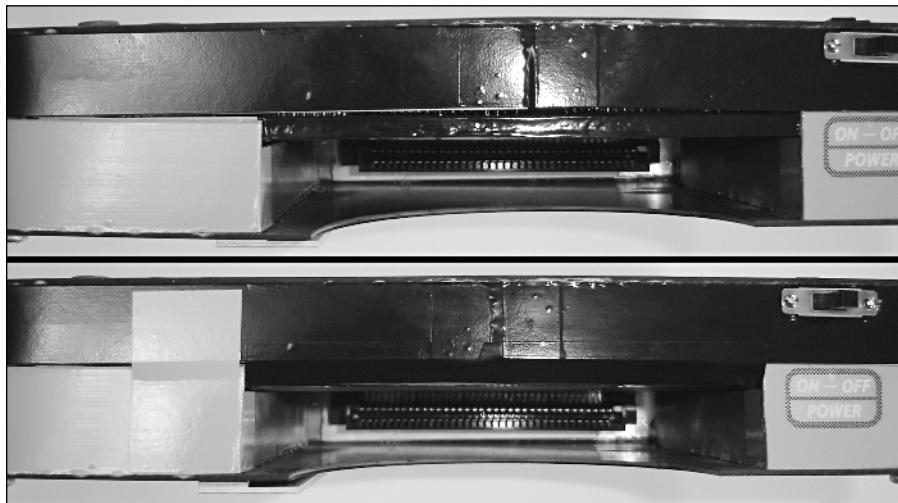

FIGURE 7-35: Using vinyl to straighten the case, before (above) and after (below).
11. Because of the manually bent aluminum, the front and rear of the unit may bow in or out, as seen in the upper portion of Figure 7-35. You can use pieces of vinyl to pull the sides together and reduce the amount of bowing, as seen in the lower portion of the figure.